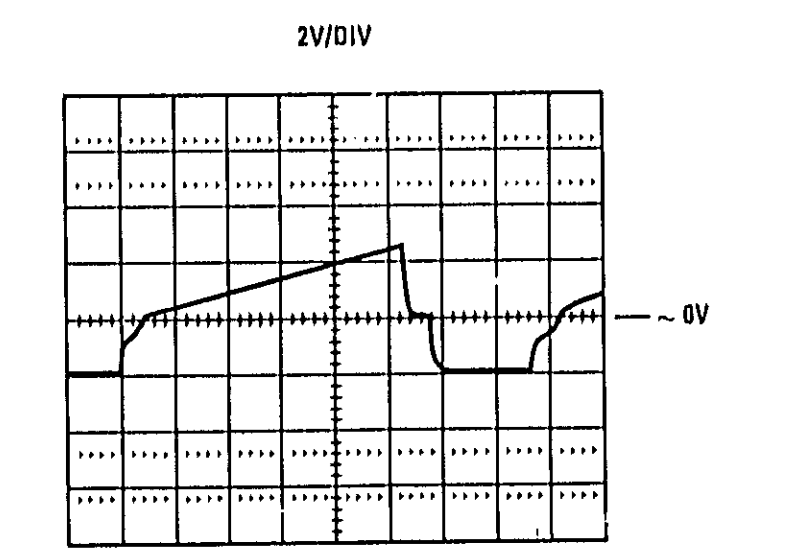

Figure 8-48. Delay Compensation (A6TP6)
2. Press INSTR PRESET to sweep the entire range of the plug-in. Check TP12 for the waveform shown in Figure 8-48. This represents the voltage (not the current) across the YO's main coil, and will give an indication as to whether current is passing through the coil. If this waveform is correct, suspect the YIG oscillator. Refer to the RF Section Service Sheet.